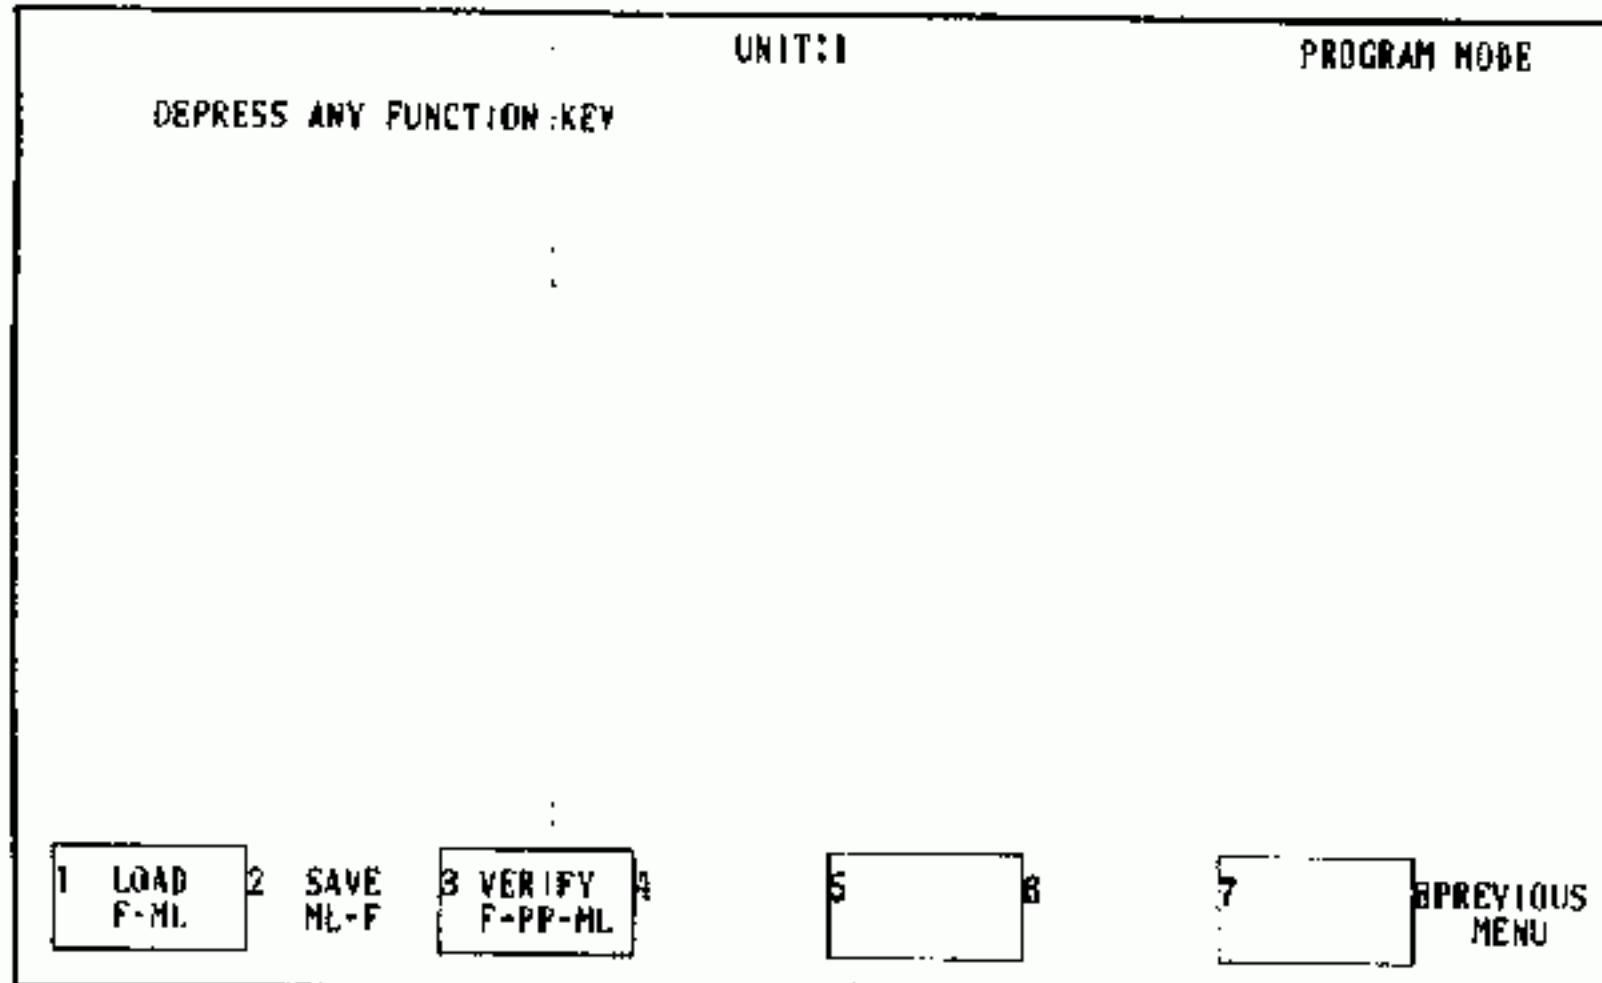
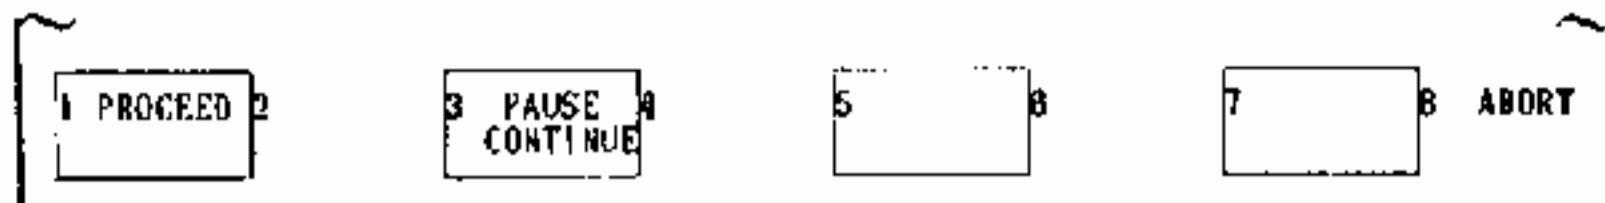

Fig. 5.2.104
Fig. 5.2.121
3. Depressing " CANCEL" key restores the state as shown in Fig. 5.2.104.
The labels shown in Fig. 5.2.109 are displayed. Depressing " PROCEED" key causes the saving process to resume, and depressing " ABORT" key returns to the display as shown in Fig. 5.2.104.
3. Depressing "CANCEL" key restores the state as shown in Fig. 5.2.104.
4. To stop the loading during execution, depress "STOP" key (Fig. 5.2.113). The labels shown in Fig. 5.2.115 are displayed. Depressing "PROCEED" key causes the loading to resume, and depressing "ABORT" key returns to the display as shown in Fig. 5.2.104.
4. If any miscomparison is found, labels shown in Fig. 5.2.121 are displayed. Depressing "PROCEED" key continues the VERIFY operation but "ABORT" key returns to the display shown in Fig. 5.2.104.